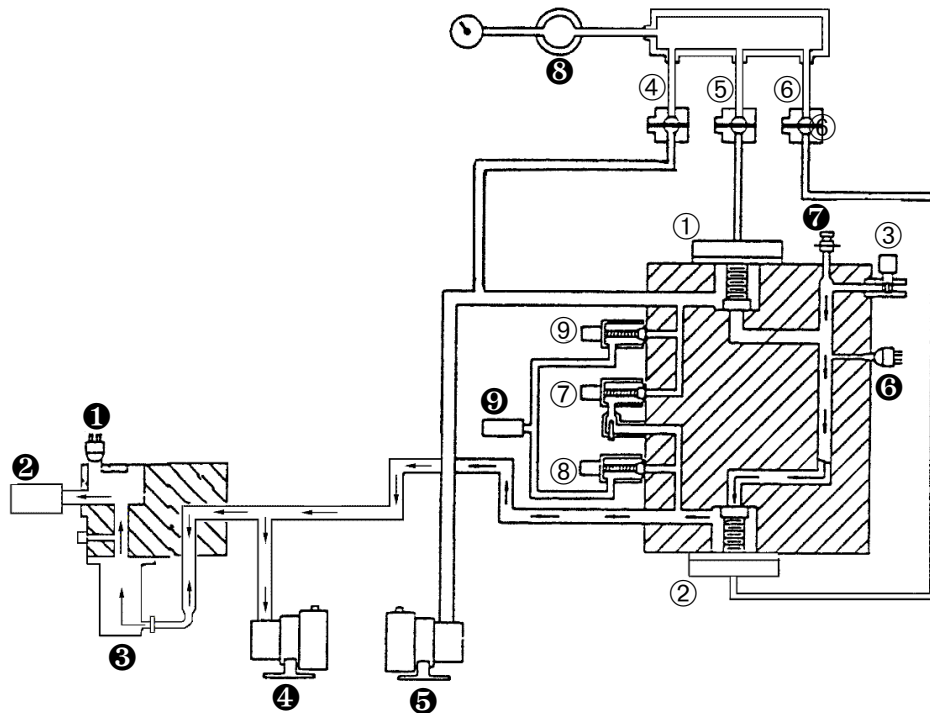
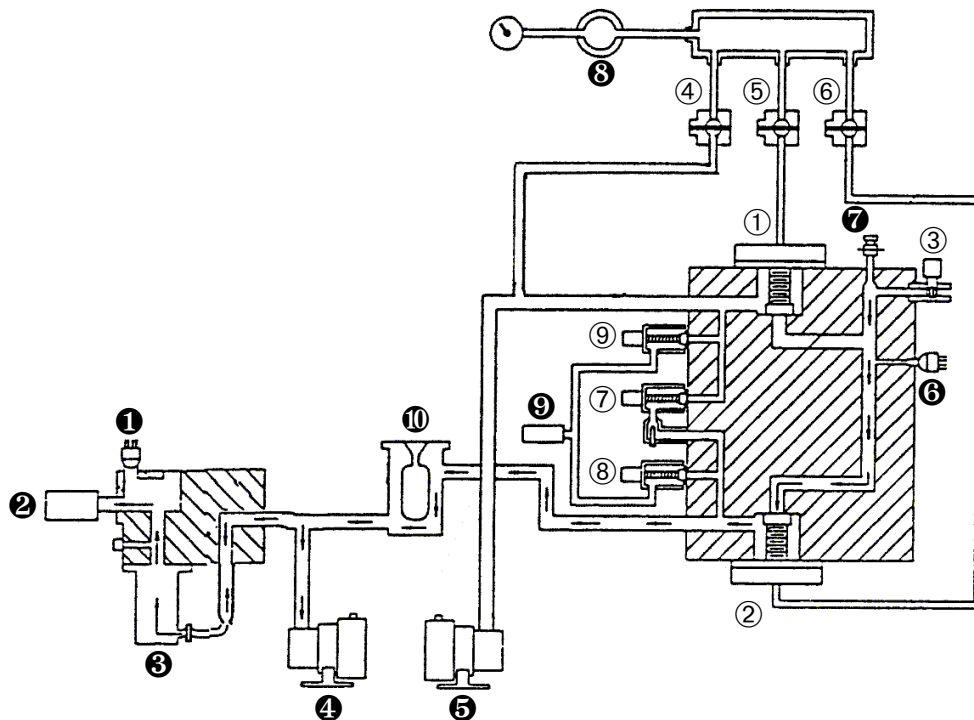

Figure 2-2 947 Flow Diagram
Figure 2-4 948 Flow Diagram
In Figure 2-2 and Figure 2-4 on page 2-6, valves are designated by numbers in white circles (①), other key parts of the vacuum system are designated by numbers in black circles (❶). The key parts are identified below the figure. The valve numbers are used in Table 2-1. The valve name and type are defined in the upper portion of the table, the state of each valve based system status is shown in the lower portion of each table.
In Figure 2-4, numbers in white circles designate the location of valves. Other key parts of the vacuum system, represented by numbers in black circles, are identified after Figure 2-4.